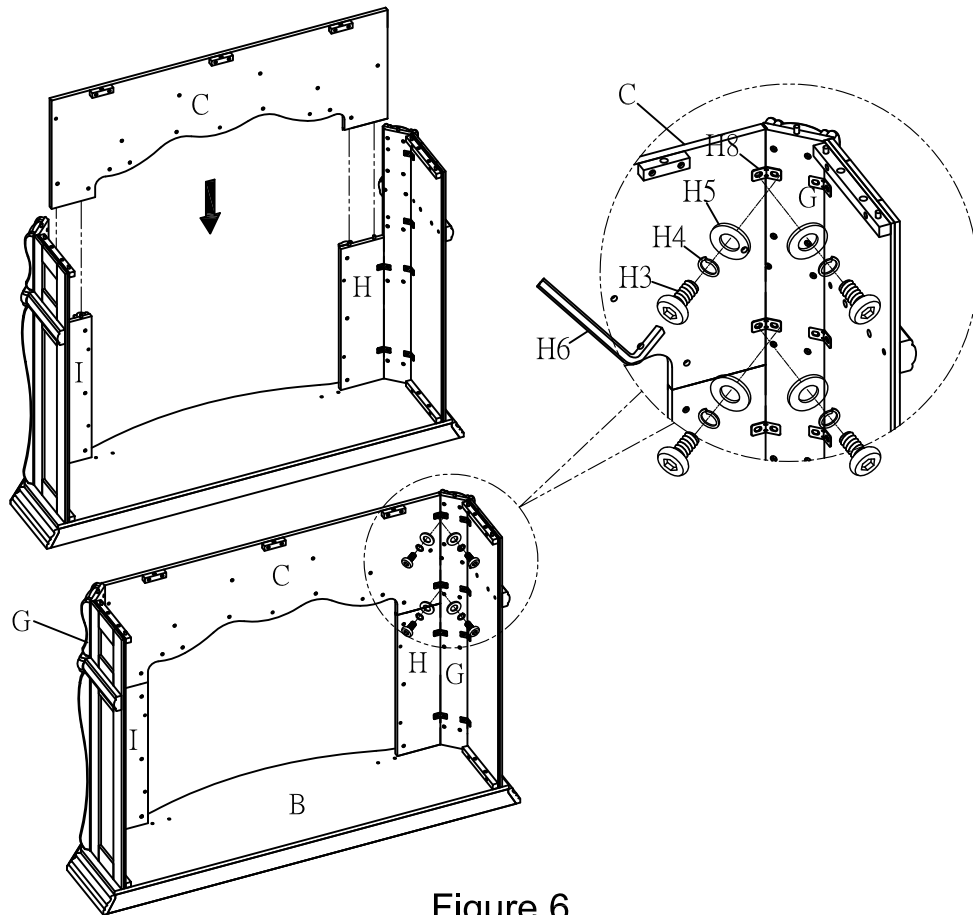

Figure 6
With Assistance from other adults, place Front Panel (C) onto the Left Support (H) and Right Support (I) by aligning the tenons of the Supports with the holes in Front Panel (C). Attach Front Panel (C) to Post (G) using Bracket (H8), Short Bolt (H3), Spring Washer (H4), Flat Washer (H5) and Allen Wrench (H6) as shown in Figure 6. DO NOT fully tighten bolts at this time.